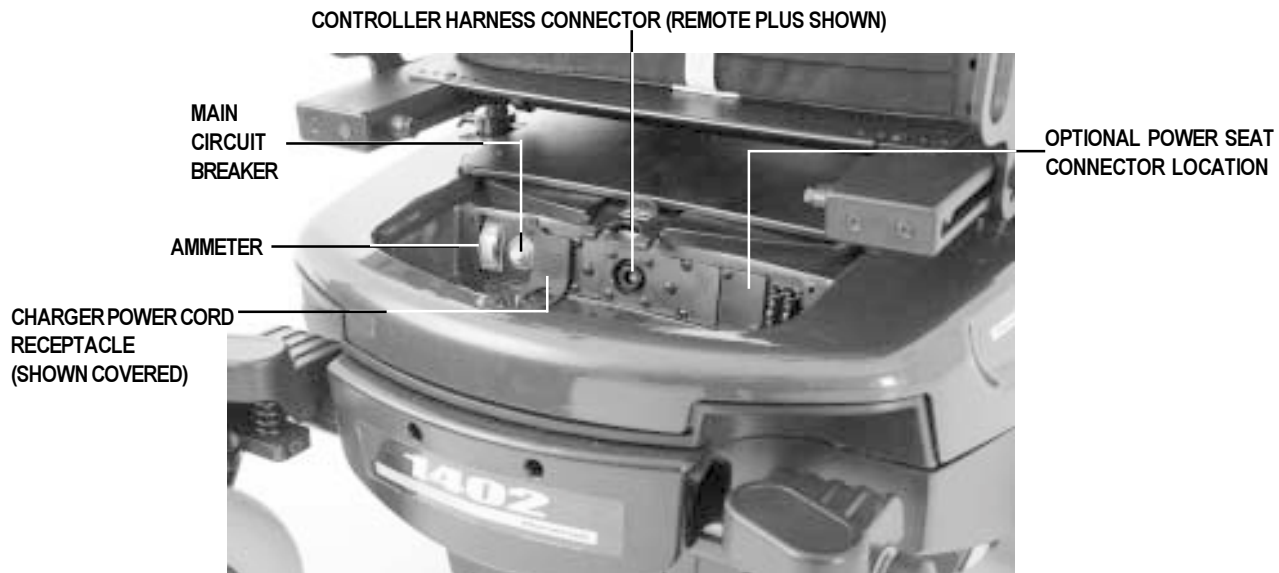

Figure 8. Electronics Tray
- **Ammeter:** The ammeter displays the charger's current output in amps. For more information, see IX. "Batteries and Charging" in this manual. See figure 8.
- **Charger Power Cord Receptacle:** This receptacle is used whenever your battery needs recharging. See figure 8.
- **Main Circuit Breaker:** The main circuit breaker is a safety feature built into your Quantum 1402. When the batteries and the motors are heavily strained (e.g., from excessive loads), the main circuit breaker trips to prevent damage to the motors and the electronics. If the circuit trips, allow your Quantum 1402 to "rest" for approximately one minute. Next, push in the circuit breaker button, turn on the joystick controller, and continue normal operation. If the main circuit breaker continues to trip repeatedly, contact your authorized Quantum Rehab Specialist. See figure 8.
- **Controller Harness Connectors:** This is where the joystick connects to the motors, batteries, and charger. Regardless of whether your Quantum 1402 is equipped with a Remote Plus or Europa controller, there is only one connector on the tray. See figures 6 and 7 to view the controller harness connectors. See figure 8.
- **Power Seat Connector (Optional):** This is for the optional power seat switch. See figure 8.